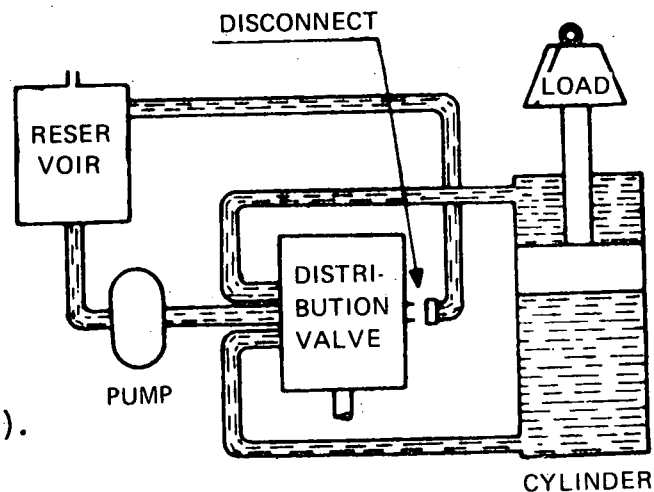

Fig. 1
- c) Disconnect the return tubing which goes from the distribution valve to the reservoir (Fig. 1).